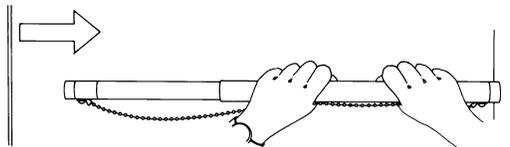

Figure 18 - Safe Use of the Door Gauge
3. Use a force gauge to measure the closing force. See Figure 18.